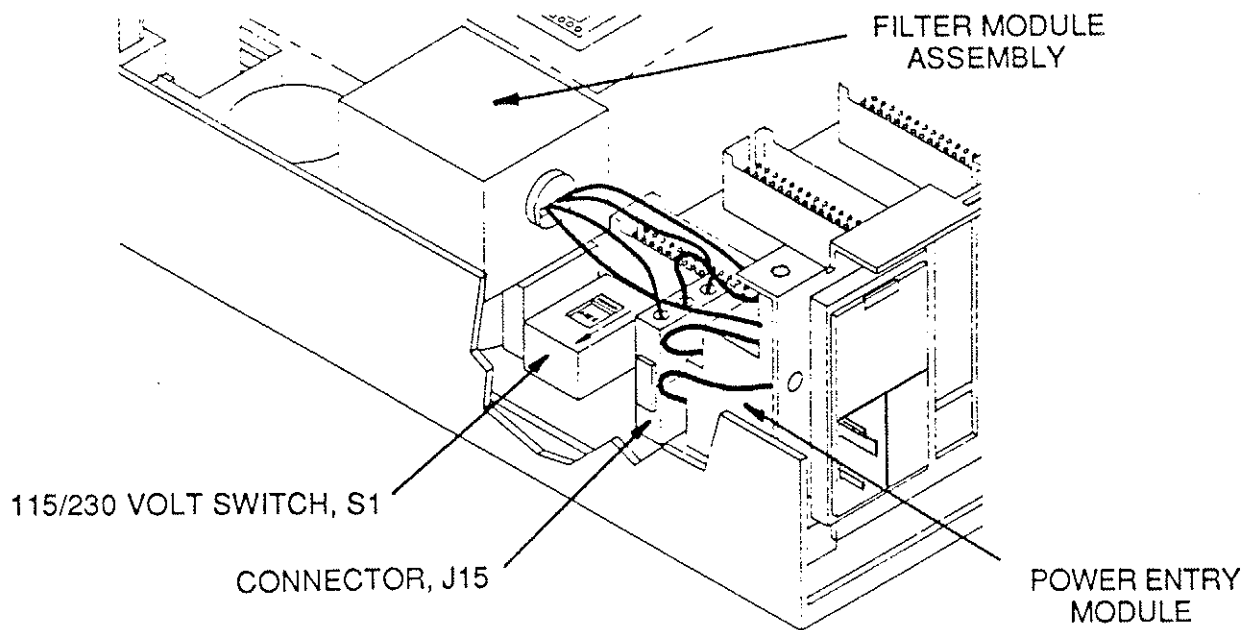

Figure 2-1. Setting Line Voltage
- 2 Set the line voltage by moving switch S1 to either the 115V (for 110V or 115V, 50/60 Hz) or 230V position (for 220V or 240V, 50/60 Hz) as shown in Figure 2-1.